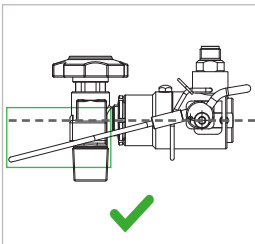

Figure 9
- ▶ Fold the actuation bail (Pos. 6) upwards. It must be possible to lift the bail easily and without any force. In its end position, the wire rope must be below the horizontal of the connector (Figure 9).